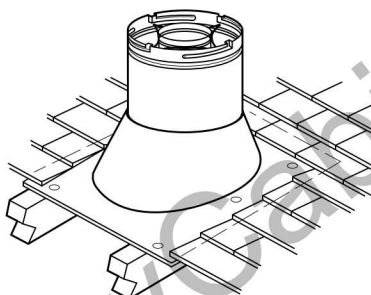

Figure 19
I. Install the roof flashing - Extend the vent sections through the roof structure. Install the roof flashing over the vent section and position such that the vent column rises vertically (use carpenters level) (**Figure 19**). Nail along perimeter to secure flashing or adjust roofing to overlap the flashing edges at top and sides only and trim where necessary. Seal the top and both sides of the flashing with waterproof caulking.